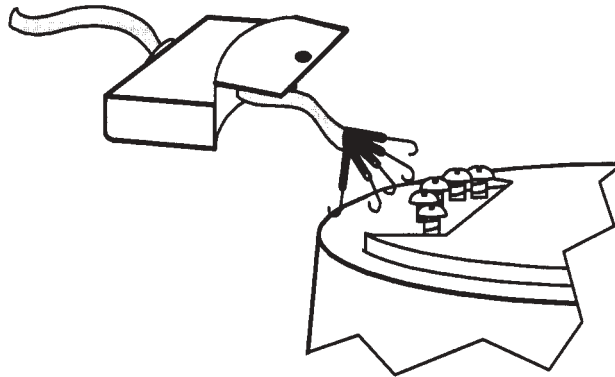

Figure 2.4 Connecting the Conductors to the Terminal Screws
7. Loosen the terminal screws, as shown in Figure 2.4.